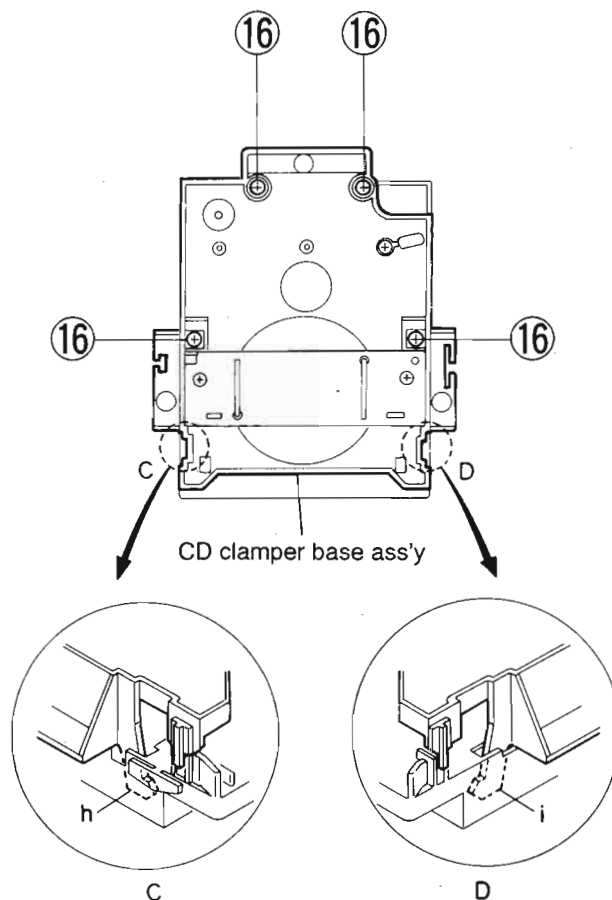

Fig. 5-14
■ How to Remove the CD Clamper Base Ass'y (Refer to Fig. 5-14)
5. From the loading base ass'y, remove the four screws (18) retaining the CD clamper base.